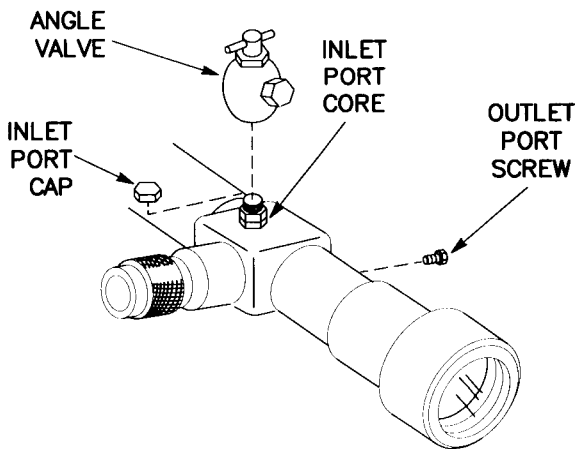

Figure 3-12 M26A1/M27A1 Muzzle Boresight
- (2) Perform purging procedure para 2-5.d.
- (3) Purge instrument at 5 psig for 5 minutes.
- (4) Install the rubber protective head cover on the boresight.
b. M26A1/M27A1 Muzzle Boresight (fig. 3-12).